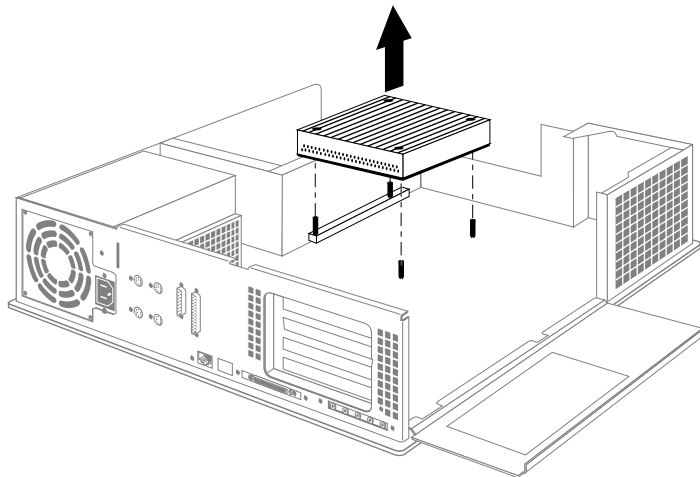

Figure 2-10 Removing the CPU Module
Note: Figure 2-10 shows an R4400 150 MHz CPU module as viewed from the rear of the workstation. If your workstation has the R4000[®] CPU module, it looks a little different, but is located in the same place.
- Loosen the four captive screws on the corners of the module that attach it to the system board, as shown in Figure 2-10. (For the R4000 module, loosen and remove the four Phillips screws.)